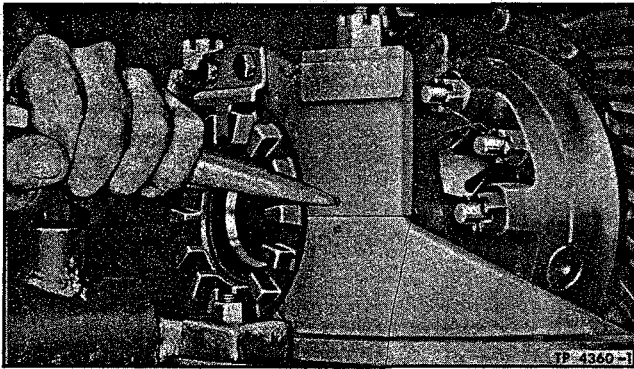

Figure 2—Bearing Cap Alignment Marks (Typical)
1. Remove lock wire from adjusting ring lock retaining bolts (7). Remove bolts, then remove adjusting ring lock (6).
2. Remove nuts from differential side bearing cap studs. Make certain that bearing caps (42) and carrier are marked (fig. 2) before removal; then remove side bearing caps (42). Remove side bearing adjusting rings (8). Lift differential assembly with cups (41) from carrier.